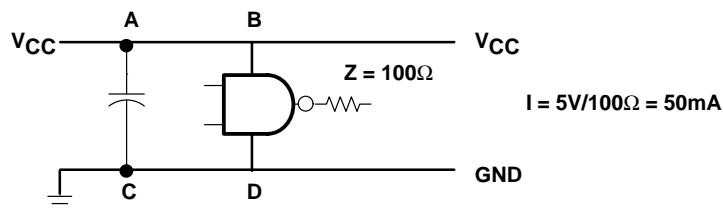
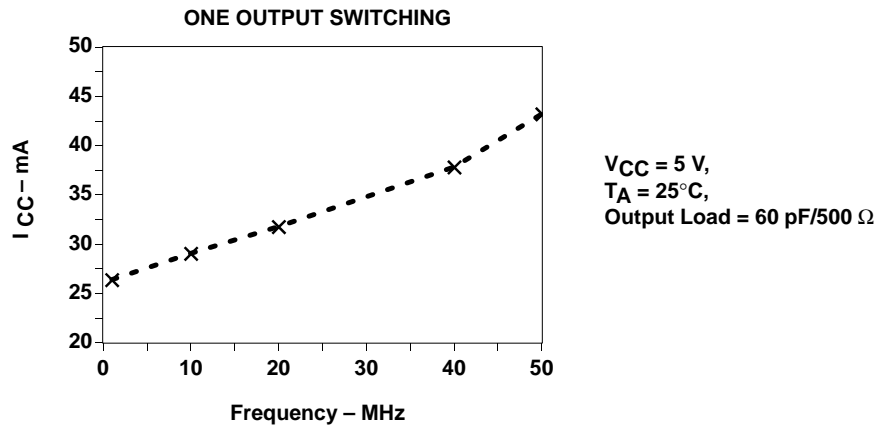

Figure 3. Capacitive Storage (Bypass Capacitor)
Figure 8. I_{CC} vs Frequency
Consider a device driving a line from low to high having an impedance ($Z \cong 100 \Omega$) and a supply voltage ($V_{CC} = 5 \text{ V}$) (see Figure 3). In order for the device to change state, an output current ($I = 50 \text{ mA}$) is needed instantaneously. Note that for eight outputs switching $I = 50 \times 8 = 400 \text{ mA}$. This current is provided by the power line (or plane) in a period \leq the rise time of the output (approximately 3 ns for ABT). The bypass capacitor must supply the charge in that same period of time to avoid V_{CC} drop, therefore distance becomes an important issue. Line inductances can block the charge from flowing, leaving the power line (or plane) disturbed.
where d is the distance between the wires, r is the radius of the wires, l is the length of the wires and μ_0 is the permeability of medium between wires, one can note that the inductance (L) is directly proportional to the distance between the lines as well as the length of the lines. Therefore, by reducing the loop ABCD in Figure 3, we can minimize the inductance and allow the capacitor to do its function more efficiently, and hence keep the noise off the power line (or plane).
For example, say one has the following parameters: $\Delta V = 0.1$ V, $\Delta T = 3$ ns, $N = 8$, and I can be obtained from either Figure 3, for rough estimate or from the plot in Figure 8, assuming 50-MHz frequency. We are going to use the latter parameter for our example, $I = 44$ mA.